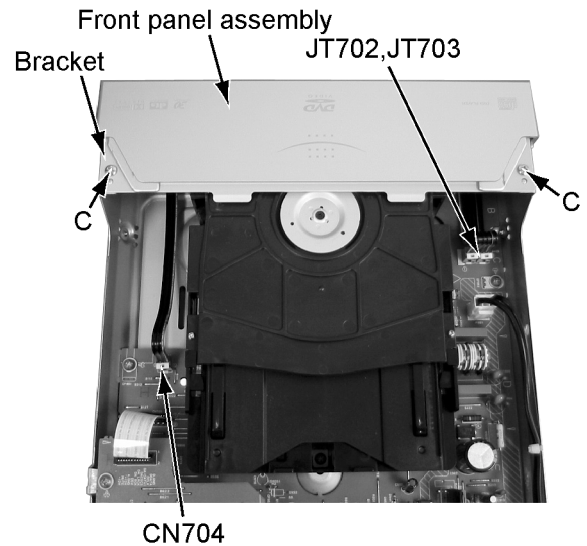

Fig.2
2.1.2 Removing the front panel assembly and bracket (see Fig.2,3)